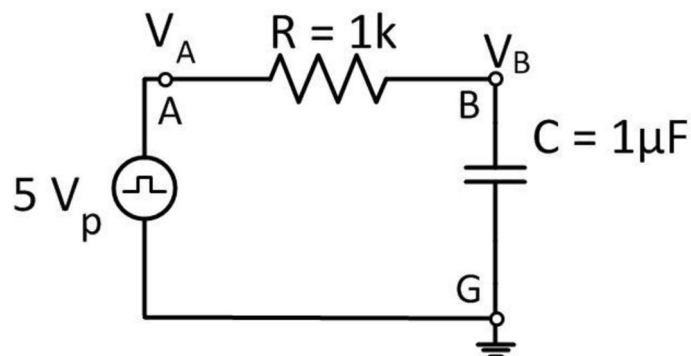
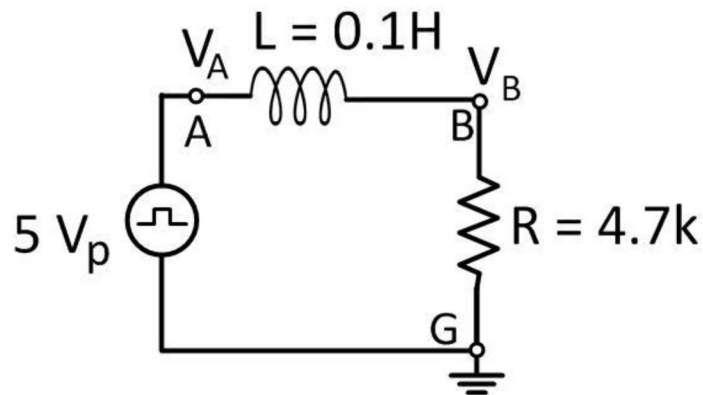

Fig. 1
Fig. 2
1. Calculate the time constants for the circuits in Fig. 1 & Fig. 2.
1. Assemble the circuit shown in Fig. 1. Connect Channel 1 and Channel 2 probes of CRO to node A and node B, respectively. Use the dc coupling mode of CRO for this part of the experiment.
1. Assemble the circuit shown in Fig. 2. Connect Channel 1 and Channel 2 probes of CRO to node A and node B, respectively. Keep using the dc coupling mode of the CRO.